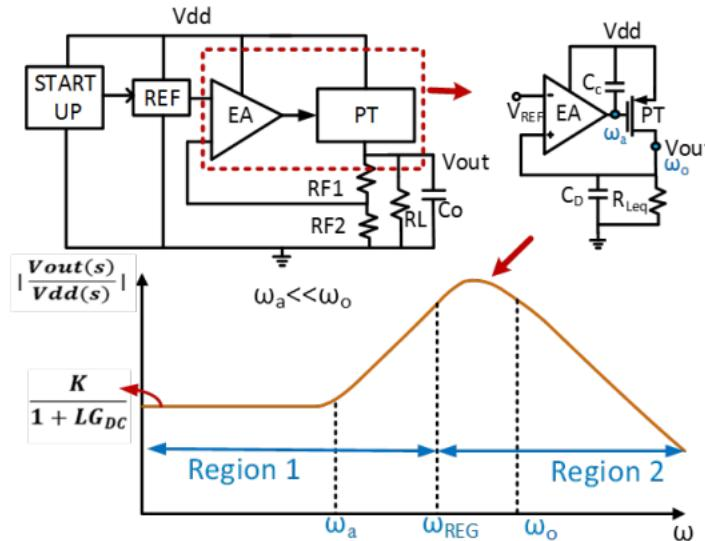

Figure 1: : Block diagram of a low drop-out (LDO) regulator and its associated PSRR curve (linear scale)
An LDO is a type of linear regulator, which can regulate output voltages to values very close to the supplied input voltage. The input to output differential voltage, at which the LDO fails to regulate the output is defined as the dropout voltage. The structure of a generic LDO is provided in the block diagram shown in Figure 1. An LDO consists of an error amplifier (EA), an NMOS or PMOS pass transistor (PT) and a resistor divider forming a negative feedback loop. The EA is fed with a constant reference voltage ( $V_{ref}$ ) by a bandgap circuit and in turn controls the PT through the feedback loop and the resistor divider circuit. The EA tracks the error between the output and  $V_{ref}$  and accordingly regulates the gate voltage of PT. The PT acts as a variable resistor and adjusts the output current to further control the output voltage at the desired level.